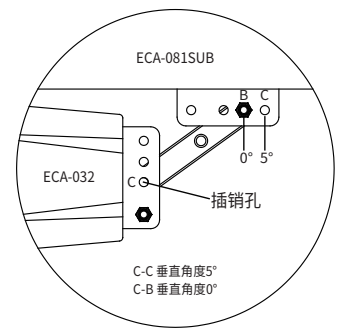

图2
2. 全频音箱（ECA-032）与超低音音箱（ECA-081SUB）三点连接，底板吊挂件通过螺栓对垂直角度两档调节（如图2）。
2. Connect ECA-032 with the subwoofer ECA-081SUB at three points. Use the bolt to adjust vertical angle in two steps (refer to figure 2).